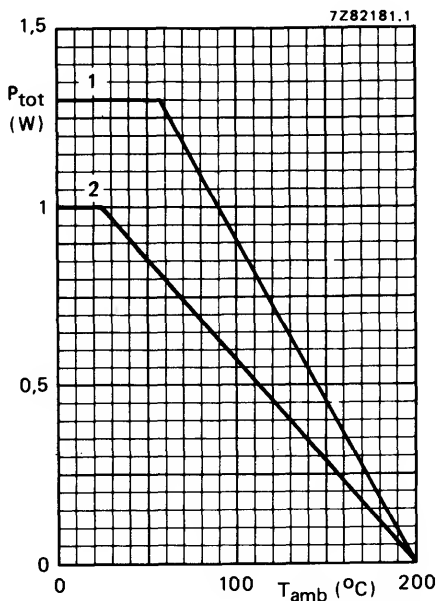

Fig. 2 Maximum permissible power dissipation versus ambient temperature.
Mounting methods (see Figs 2 and 3)
1. To tie-points (lead length = 4 mm in Fig. 2).
2. Mounted on a printed-circuit board (with lead length of 10 mm in Fig. 2) and print copper area of 1 cm^2 per lead.